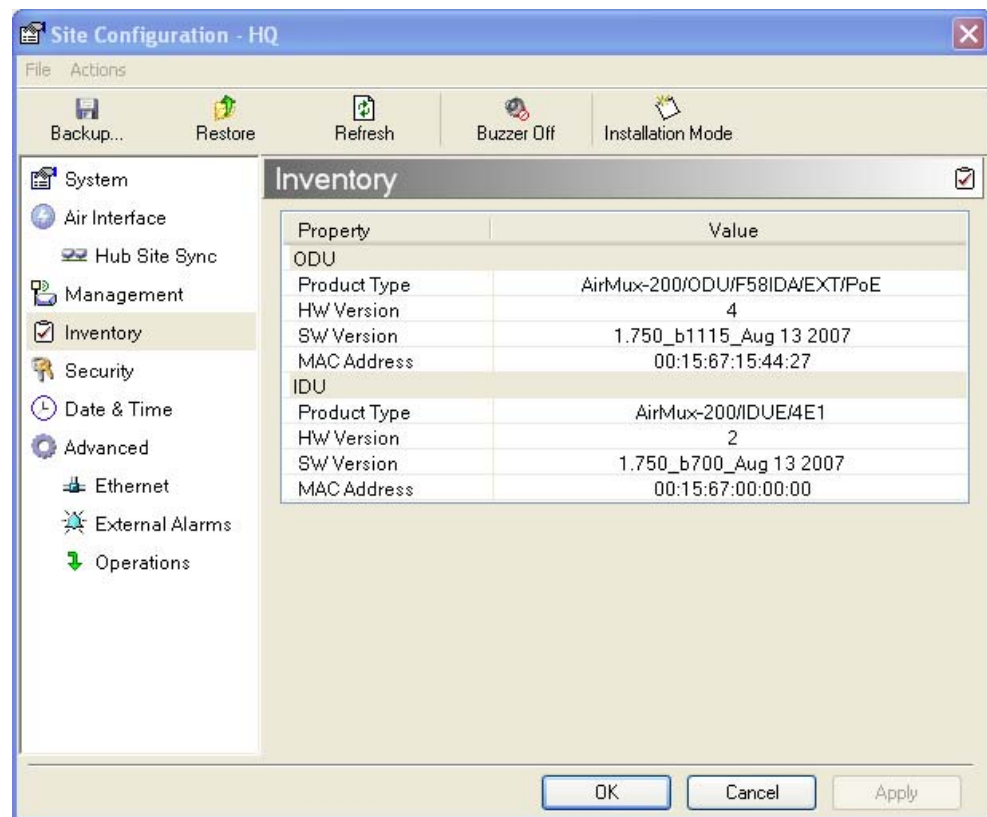

Figure 4-21. Inventory Screen
3. Select Inventory (Figure 4-21).